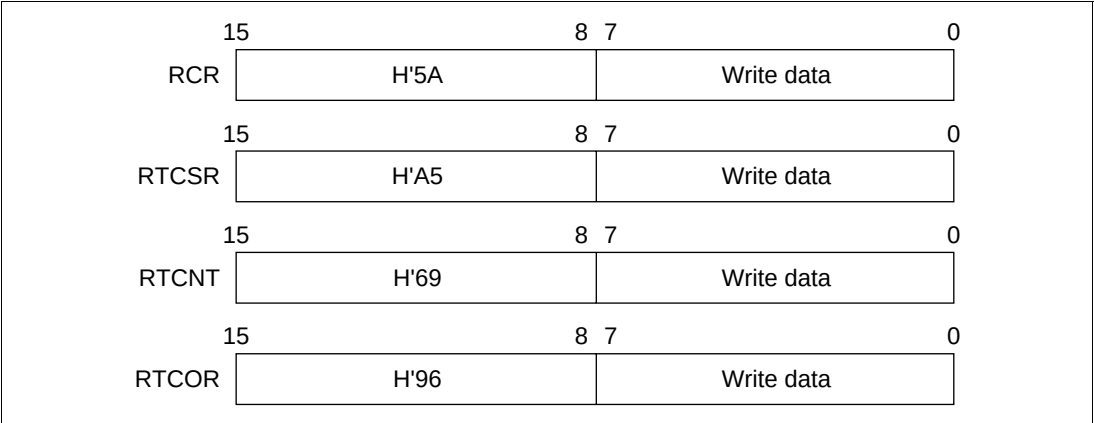

Figure 8.2 Writing to RCR, RTCSR, RTCNT, and RTCOR
**Writing to RCR, RTCSR, RTCNT, and RTCOR:** Use only word transfer instructions. It is not possible to write with byte transfer instructions. As figure 8.2 shows, when writing to RCR, place H'5A in the upper byte and the write data in the lower byte. When writing to RTCSR, place H'A5 in the upper byte and the write data in the lower byte. When writing to RTCNT, place H'69 in the upper byte and the write data in the lower byte. When writing to RTCOR, place H'96 in the upper byte and the write data in the lower byte. These transfers write data in the lower byte of the respective registers. If the upper byte differs from the above passwords, no writing occurs.